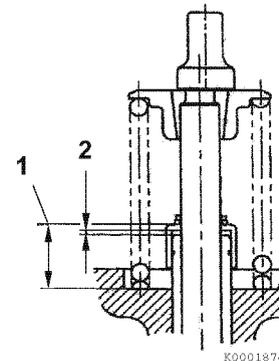

Figure 6-33
Always install new valve stem seals. The exhaust valve stem seals are different than the intake valve stem seals and can be identified by either the paint marks on the outside of the seals or by the color of the seal spring (4, **Figure 6-33**). Ensure they are installed in the correct locations.
2. Measure the distance (1, **Figure 6-33**) from the cylinder head to valve stem seal to ensure proper clearance (2, **Figure 6-33**) between the guide and the seal. See *Intake/Exhaust Valve and Guide* on page 6-5.